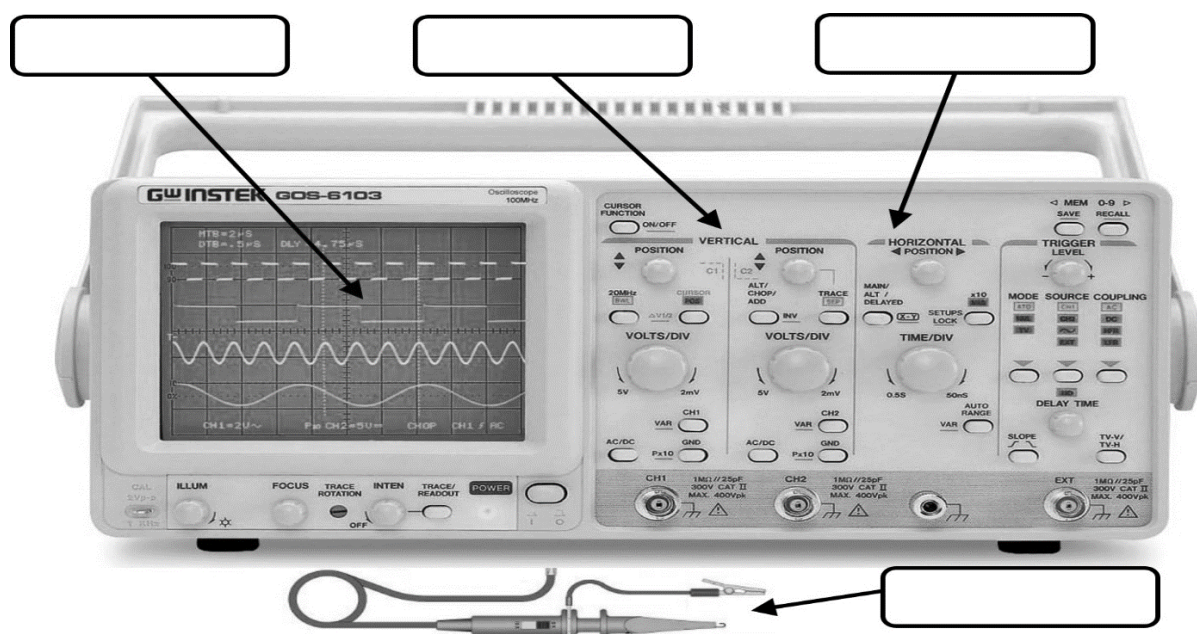

Figure 8: Oscilloscope
c. Label the important features of the oscilloscope shown in Figure 8.